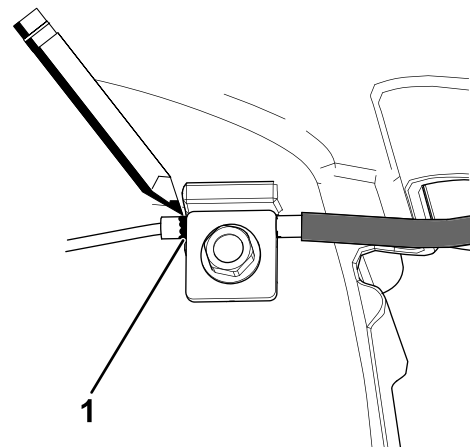

Figure 35
7. Mark the brake cable (Figure 35), then adjust the jacket until there is approximately 8 mm (5/16 inch) of slack (Figure 35).